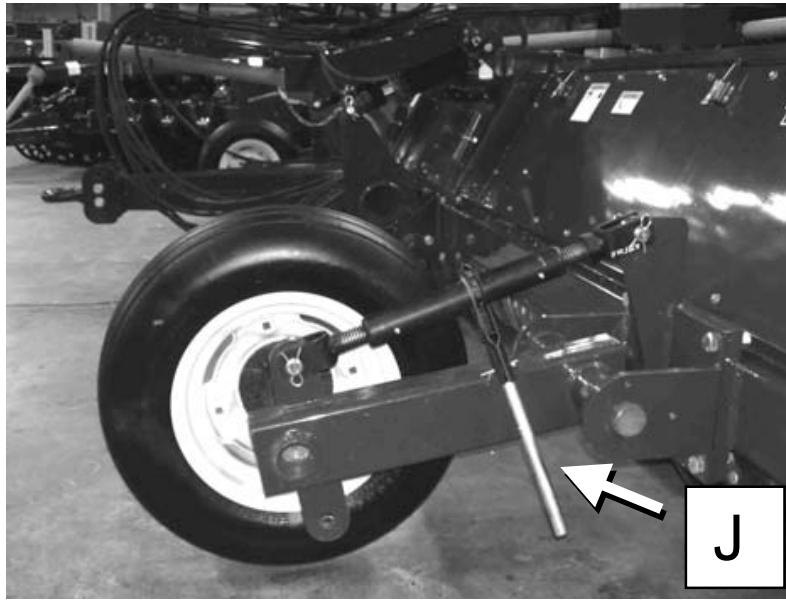

Figure 8 - Wheel and Tire Assembly Installation
1. Attach the two stabilizer wheel assemblies (J) to the brackets on the front of the frame using four each of the following: 3/4 X 2-1/2 HHCS, flat washers, lock washers and nuts. See Figure 8.